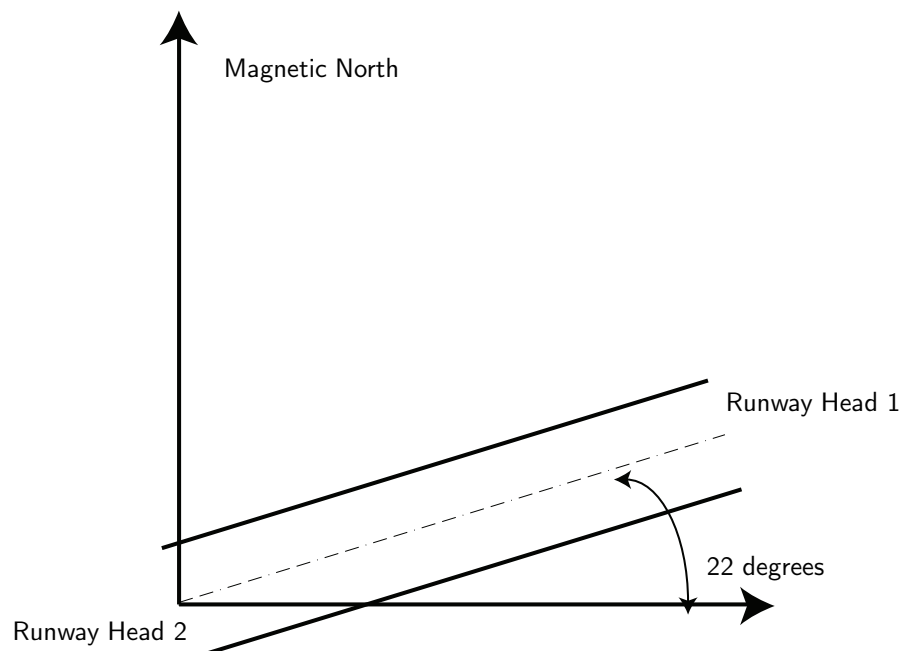

Figure 3.2: Runway Designators.
9. Attending at Figure 3.2, where a runway is orientated with an angle of 22 degrees with respect to a given reference, obtain the designators of both runway heads. [0.5 pt]